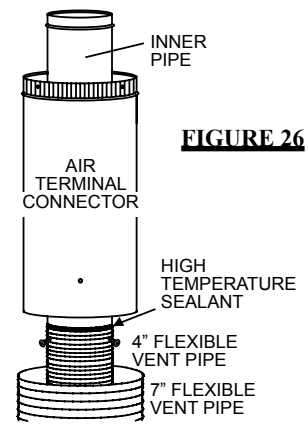

FIGURE 26
2. Stretch the 4" flexible vent pipe to the required length. Slip the 4" flexible vent pipe a minimum of 2" over the inner sleeve of the air terminal connector and secure with 3 #8 screws. Seal using a heavy bead of high temperature sealant W573-0007 (not supplied). Figure 26.
3. Repeat using the 7" flexible vent pipe, using a heavy bead of high temperature sealant W573-0002 (not supplied). Figure 26.